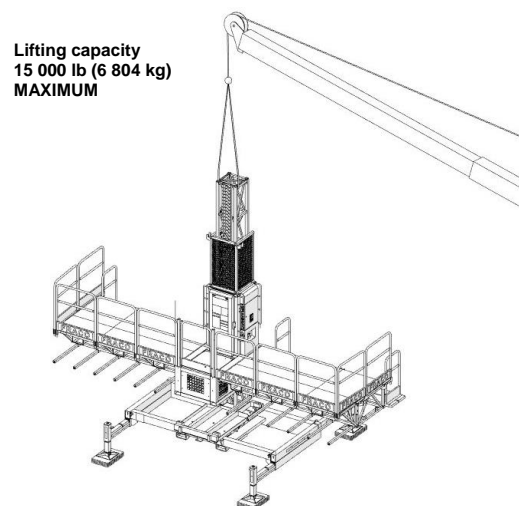

Figure 47 - Assembly lifting capacity
- Lifting operations of up to **MAXIMUM** 15 000 lb (6 804 kg) may be carried out using lifting slings (*Figure 47*).
- The assemblies shall have an equivalent load distribution on both (2) sides of the mast's center of gravity.